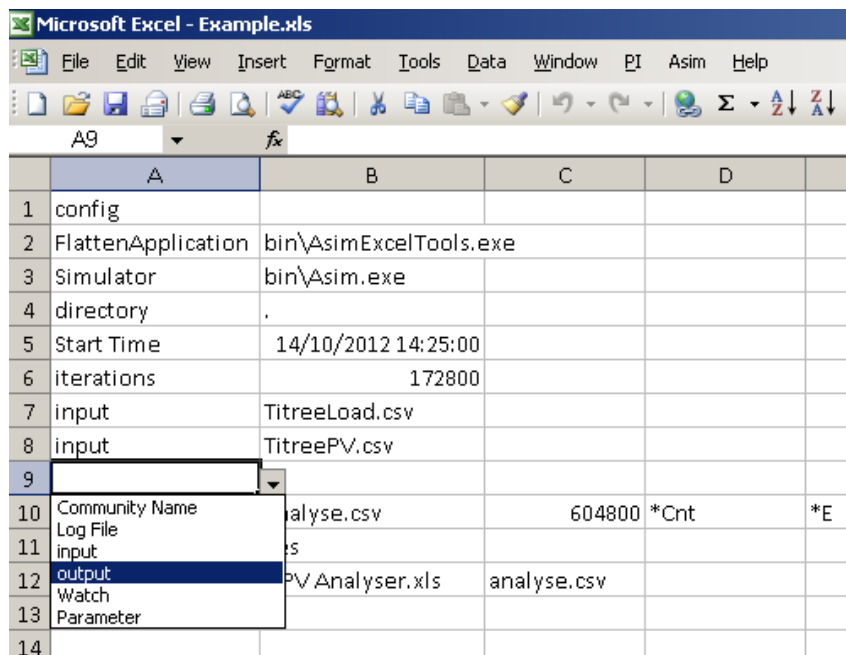

Figure 24: Creating a new output field
3. Select the empty cell and pick *output* from dropdown menu. The worksheet should now look like Figure 24